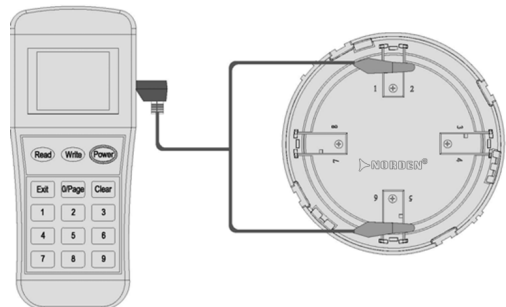

Figure 3
1. Connect the programming cable to 1 and 6 terminals (Figure 3). Press “Power” to switch on the unit.